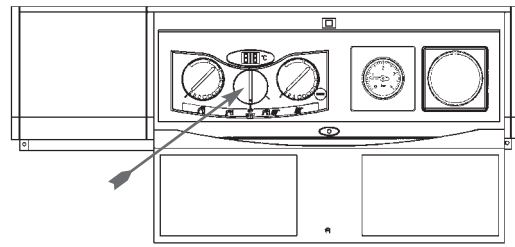

Fig. 2
2.1 With the boiler mode selector switch (6) turned to (Fig. 2) the main burner will ignite electronically whenever water is drawn from the tap.